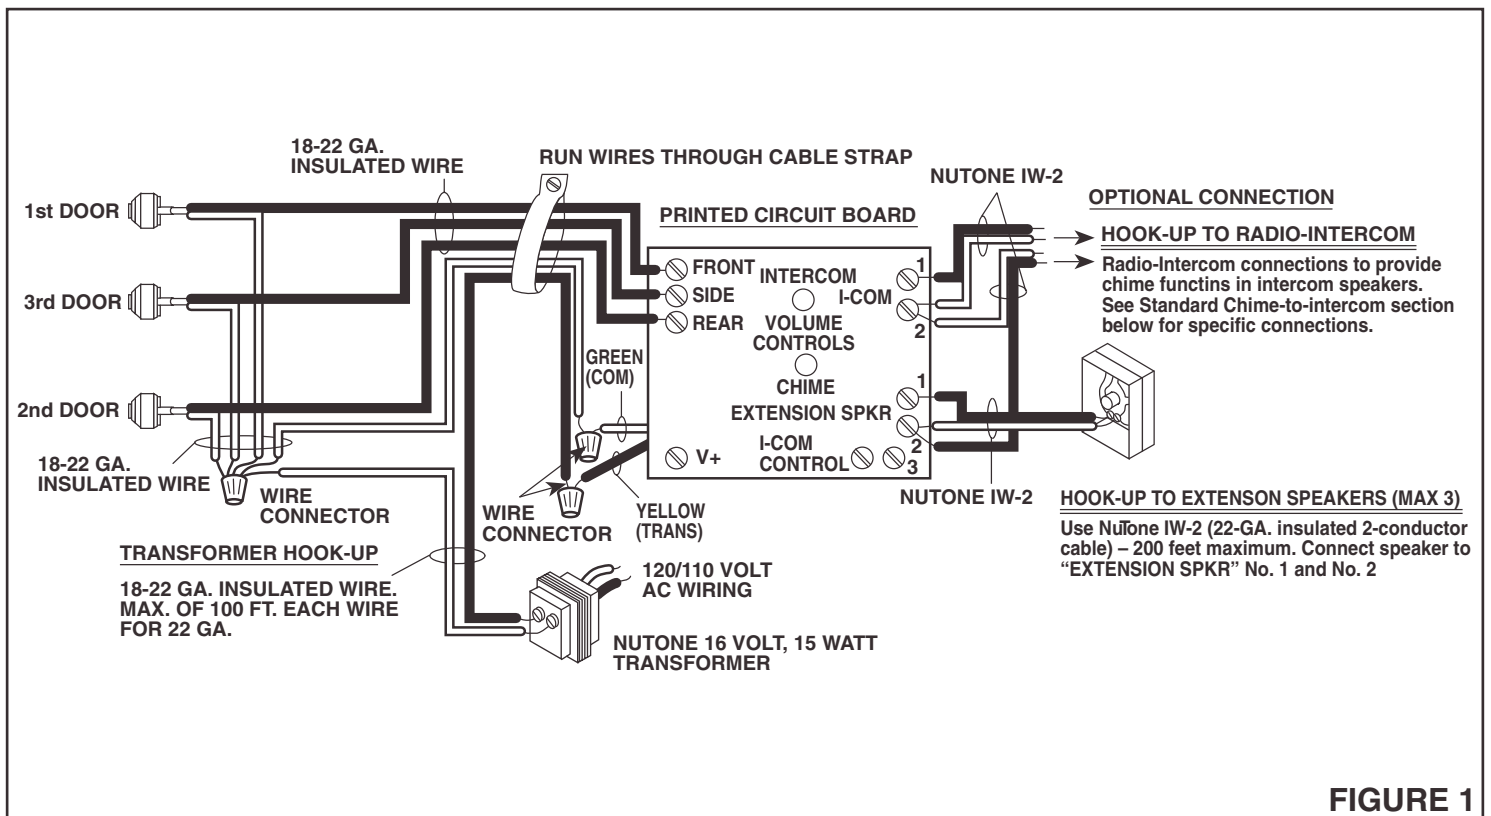

FIGURE 1
2. **Refer to Figure 1.** Run 18-2 gauge wire from the transformer and pushbutton(s) to the chime location. Feed the wires through the cable strap that is attached to the door chime.
1. **Refer to Figure 1.** Make wire connections to terminals shown as applicable.
2. Upon completion of installation, if the chime does not operate, recheck your installation with the preceding instructions and wiring diagram shown in figure 1. If the chime still does not operate, check the pushbutton(s) for poor contact or loose connections.
Refer to Figure 1.
The chime should be heard clearly throughout the home and/or intercom system. If necessary, use a screwdriver to adjust the appropriate volume control as illustrated in figure 1.